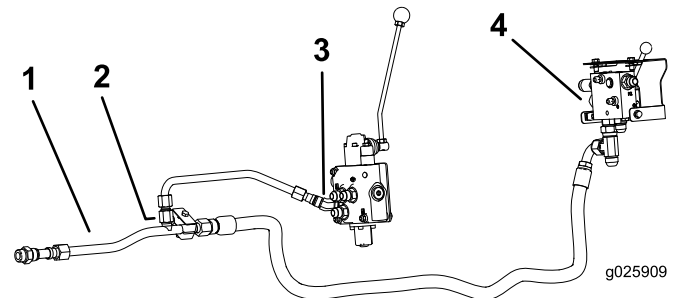

Figure 24
5. Remove the cap on the radiator tube line (Figure 24).
6. Connect a hydraulic tube from the hydra-borer-control valve (Port T) to the radiator tube line (Figure 24).